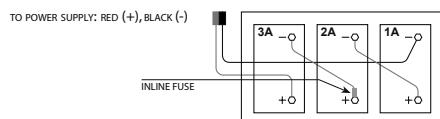
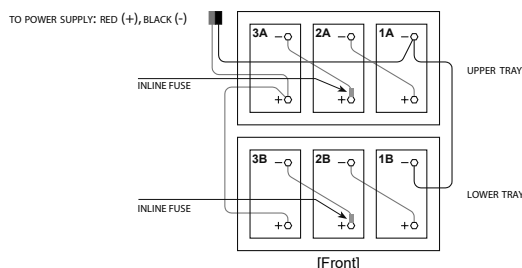

Fig. 1, Series String of Batteries
Fig. 2, Parallel String of Batteries
1. Refer to the layout for 36V single string and 36V dual string (parallel) configurations (Fig.1 and Fig.2).